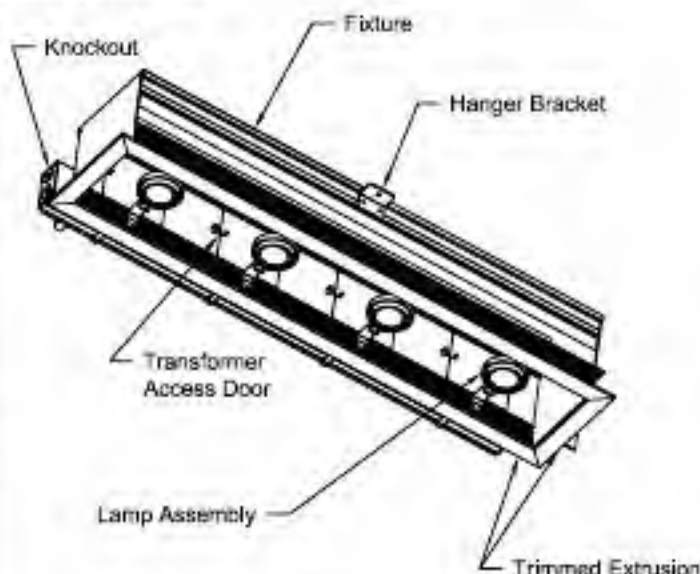

Figure 5
1. Locate Transformer Access Door behind each Lamp Assembly. See Fig. 5.
3. Remove Two (2) Knurled Knobs at each side of Access Door.